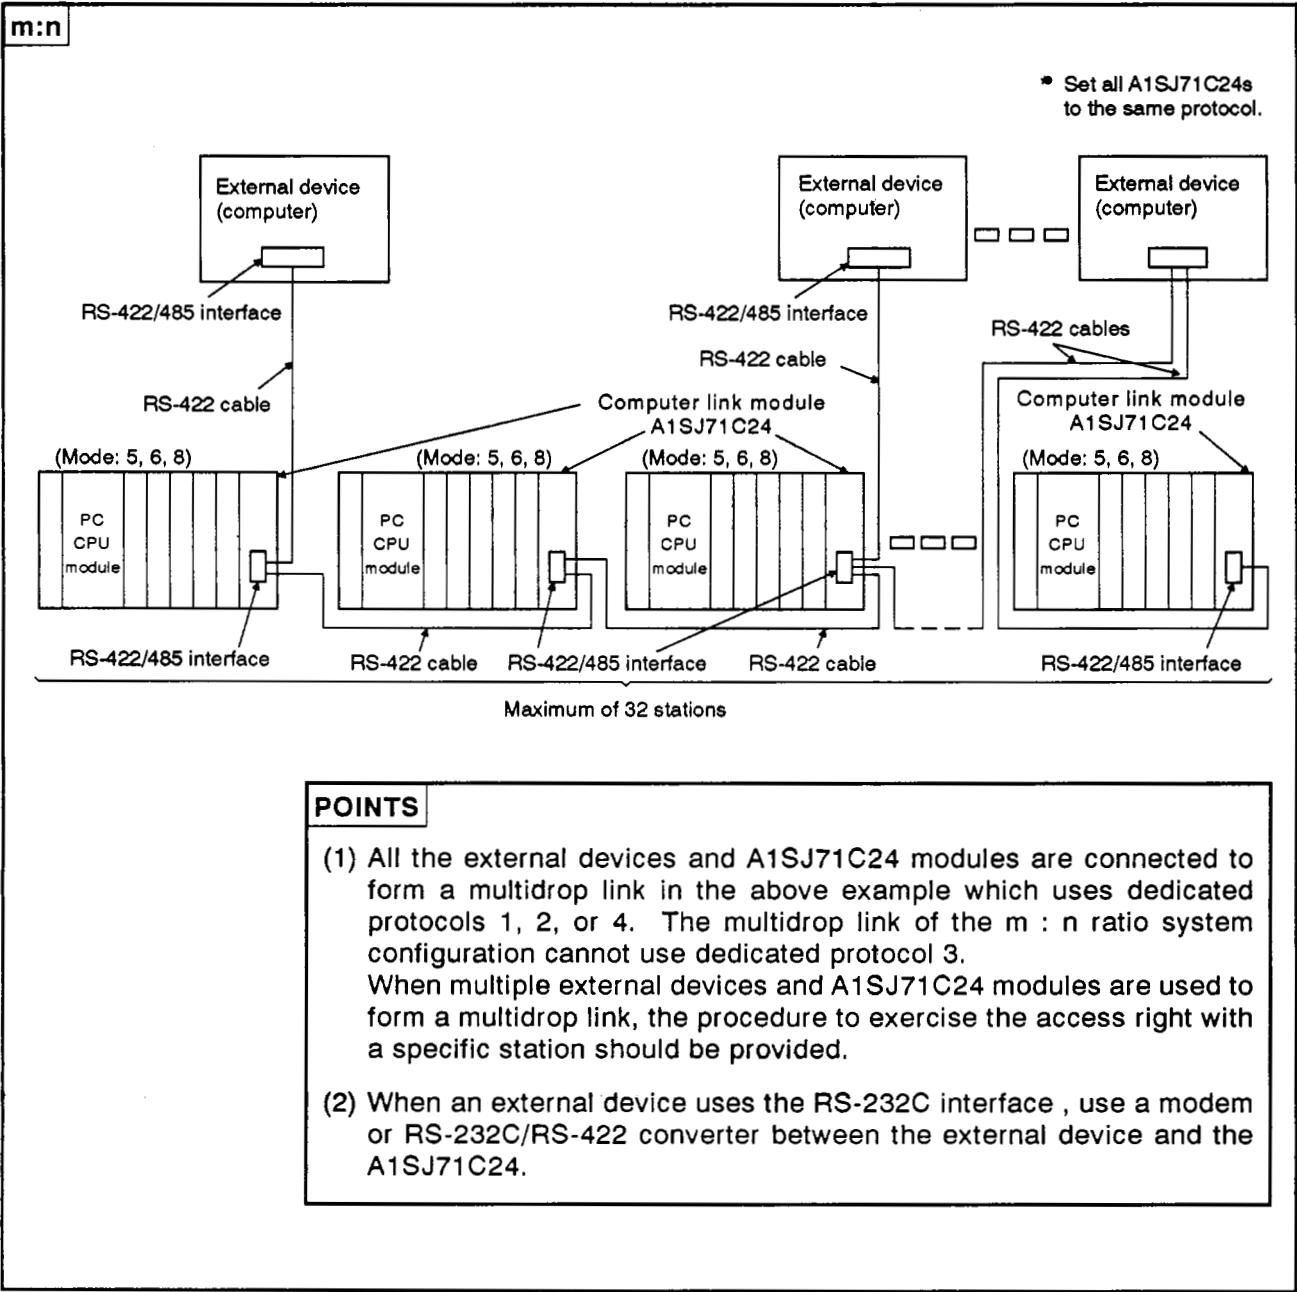

Fig. 2.4 System Configurations (III)
- (3)  $m : n$  ratio of external devices to PC CPUs
- (a) The system configuration for a  $m : n$  (up to 32 stations) ratio of external devices (such as a computer) to PC CPUs is shown in Fig. 2.4 below.